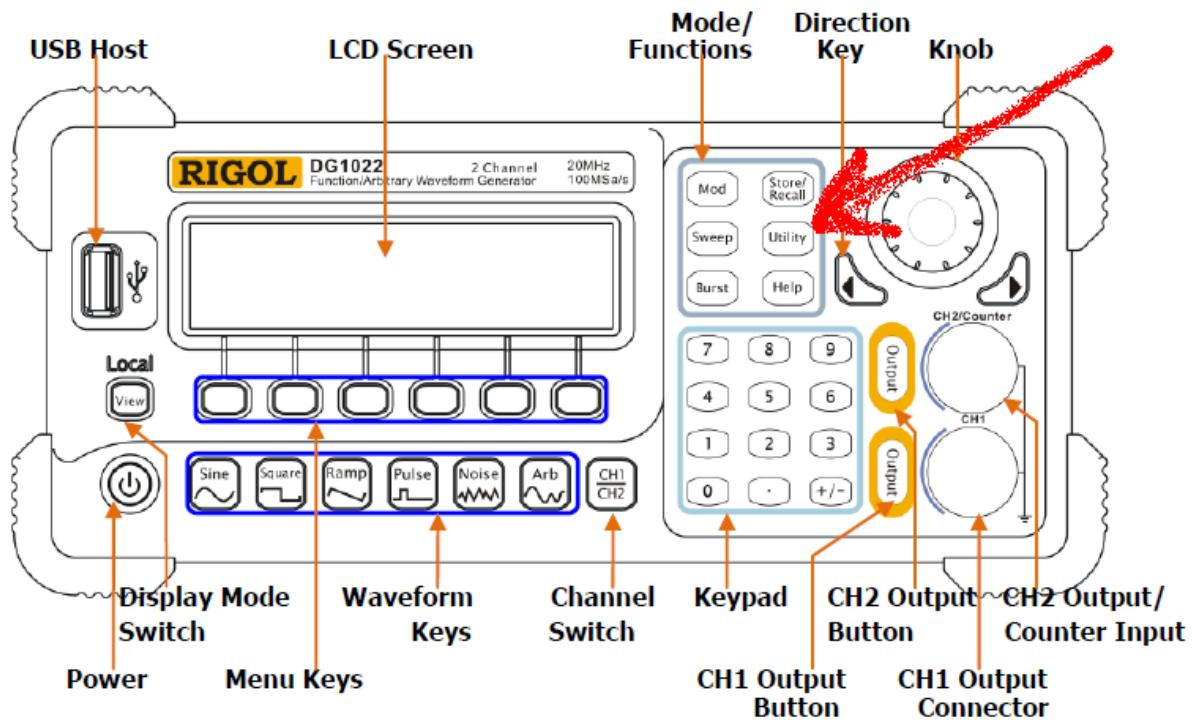
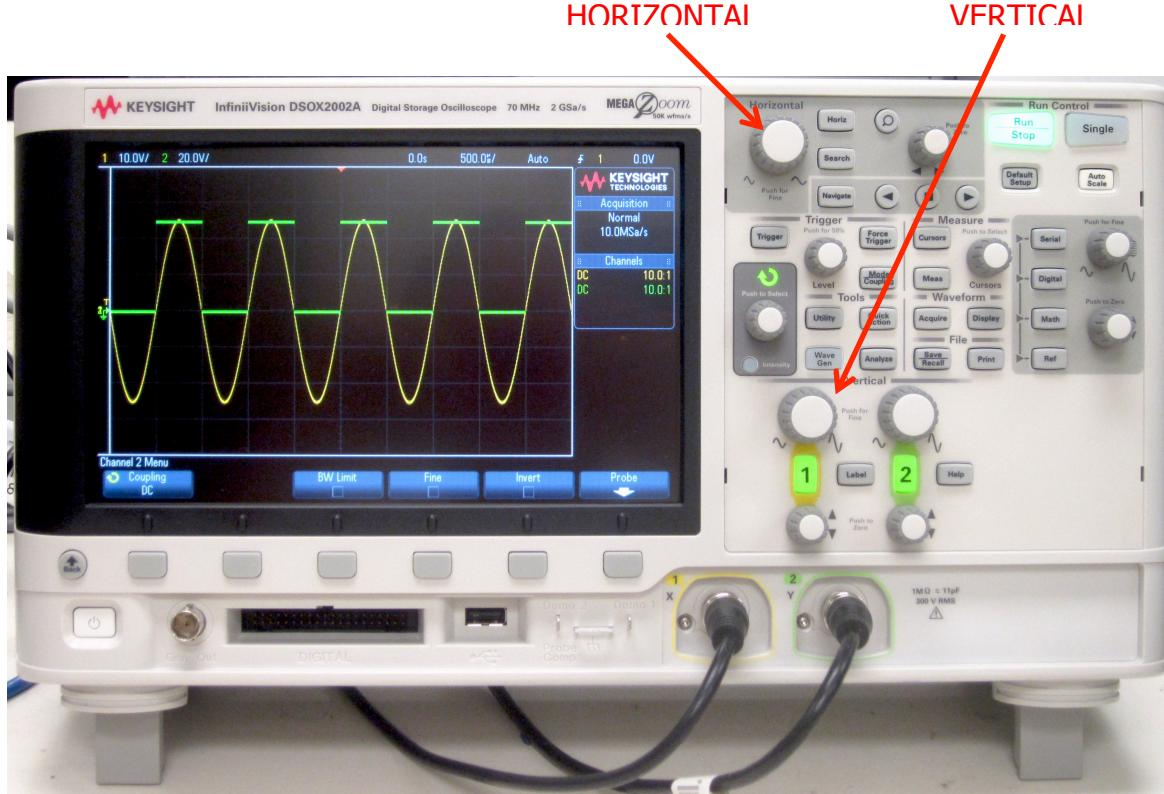

FIGURE 2-1a: DIGITAL Signal Generator (front)
FIGURE 2-2: OSCILLOSCOPE
1. Turn on both the function generator (Figure 2-1a) and oscilloscope (Figure 2-2).
6. Turn the Horizontal and Vertical knobs until you see a sinusoidal waveform on the display (Figure 2-2) with a square wave generated by the Sync Out. If you do not see either, press CH1 Menu and Trigger Menu on the oscilloscope to turn on the inputs. You can tell that CH1 is on if the pushbutton under the CH1 Vertical Knob is illuminated.